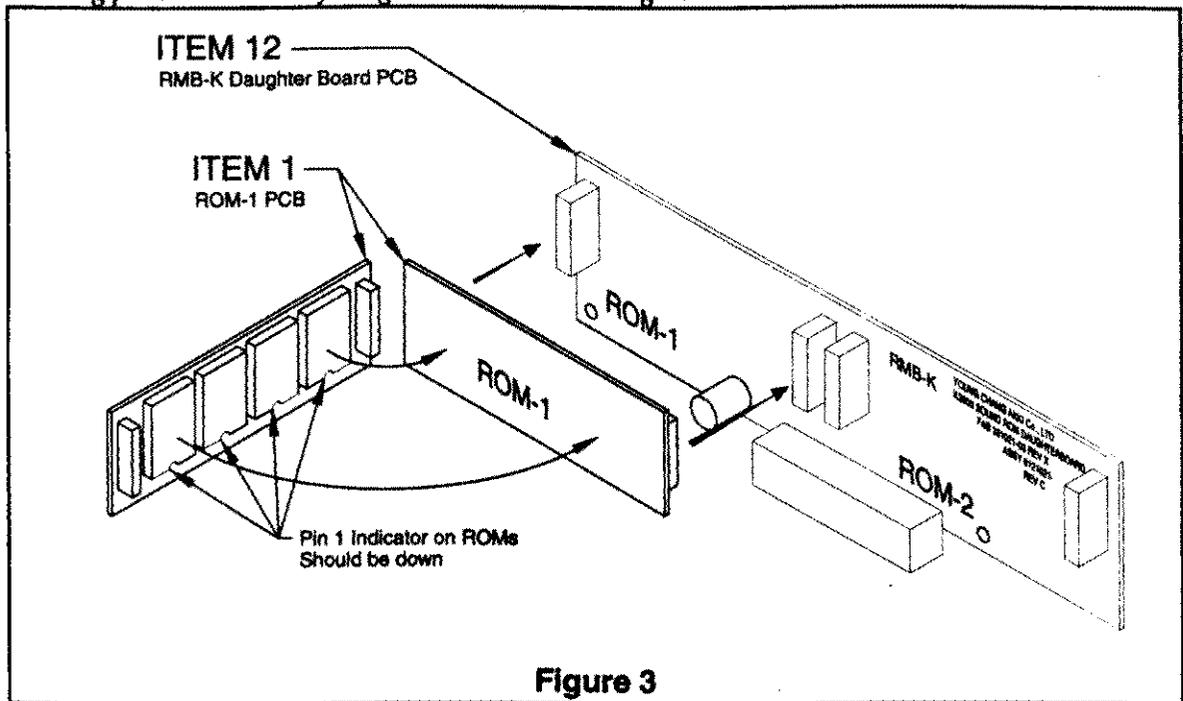

**Figure 2**
2. See Figure 2. Looking at the Engine PCB with the MIDI & SCSI connectors facing away from you, locate the four EPROM sockets. They are on the lower left half of the board above J1, the 64 pin connector labeled "PROCESSOR EXP".
3. See Figure 2. Find the two setup EPROM sockets. The two sockets will have EPROMs already installed in them if you have Engine Software 2.x. If there are EPROMs present then use an EPROM puller to carefully remove them from their sockets.
4. See Figure 2. Take Item 2, Setup **LO** EPROM, and place it into the left-most socket. Be sure that the notch in the EPROM indicating pin one is facing J1. Gently push the EPROM into the socket, making sure that all pins are inserted correctly. Be careful not to bend any pins.
5. See Figure 2. Take Item 3, Setup **HIGH** EPROM, and place it into the second socket from the right. Be sure that the notch in the EPROM indicating pin one is facing J1. Gently push the EPROM into the socket, making sure that all pins are inserted correctly. Be careful not to bend any pins.
6. See Figure 2. Looking at the Engine PCB with the MIDI & SCSI connectors facing away from you, locate J12, the 48 pin connector labeled "SOUND ROM EXP". It is to the left of the SIMM sockets and above the software and setup EPROMS.
7. See Figure 2. Remove the two Engine PCB mounting screws to the left and right side of J12, the 48 pin connector labeled "SOUND ROM EXP" and discard them. You will be using replacement screws, supplied with the kit, later on in the installation.
12. See Figure 2. Identify what type and revision Engine Board is in the unit. The revision of the board is silk-screened above J12, the 48 pin connector labeled "SOUND ROM EXP". This connector is to the left of the SIMM sockets. On Calvin boards, the silk-screen says "BOARD P/N 331004-
13. See Figure 2. If the type and revision of the Engine Board is "Janis" or "Calvin C", you may have to install a wire jumper. Locate JP7 between the four EPROM sockets and connector J1, the 64 pin connector labeled "PROCESSOR EXP.". A jumper header may be installed or there may just be 3 pads.
14. See Figure 2. If there is a jumper header, then install Item 8, Push-on Jumper, on pins 1 and 2, the middle and right pins.